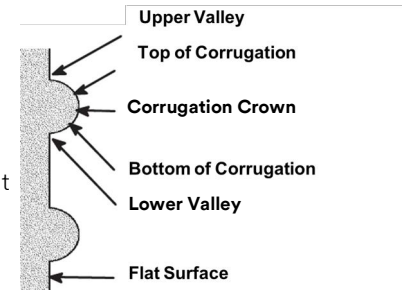

Figure 1. Profile of a Standard Corrugation
- The profile of a standard corrugation has flat areas alternating with raised, rounded areas. Figure 1 identifies the parts of the profile.